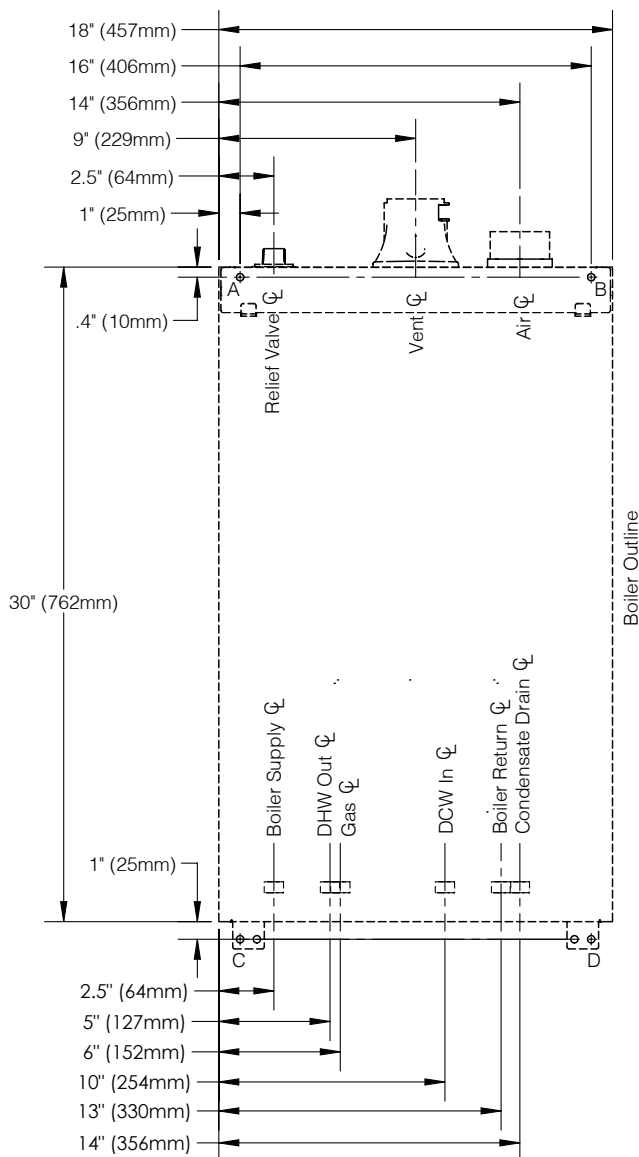

Figure 6-4: Wall Layout and Mounting Holes
2. Mark wall bracket hole locations using template shown in Figure 6-4. Ensure bracket is level.